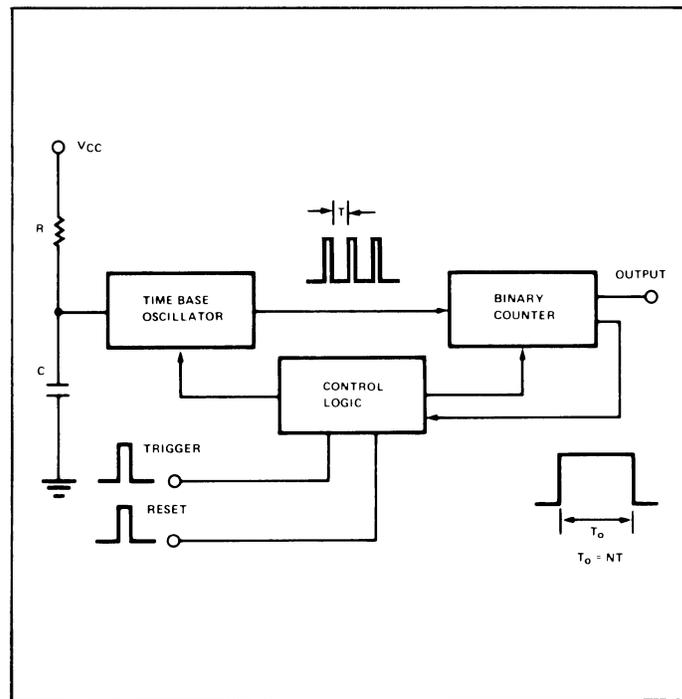

Figure 3. Simplified Block Diagram of a Timer/Counter.
The timer/counter, or multiple-cycle timing circuits use the combination of a time-base oscillator and a binary counter to generate the desired time delay. Figure 3 shows a simplified block diagram of a timer/counter IC, which is made up of three basic blocks: (1) a time-base oscillator; (2) a binary counter; and (3) a control flip-flop.
With reference to the simplified block diagram of Figure 3, the principle of operation of a timer/counter can be explained as follows: when the circuit is at rest, or reset condition, the time-base oscillator is disabled, and the counter is reset to zero. Once the circuit is triggered, the time-base oscillator is activated and produces a series of timing pulses whose repetition rate is proportional to external timing resistor R, and the capacitor C. These timing pulses are then counted by the binary counter; and when a pre-programmed count is reached, the binary-counter resets the control flip-flops, stops the time-base oscillator and ends the timing cycle. The total timing interval,  $T_0$ , is then proportional to N times the (RC) product, where N is the pre-programmed count.